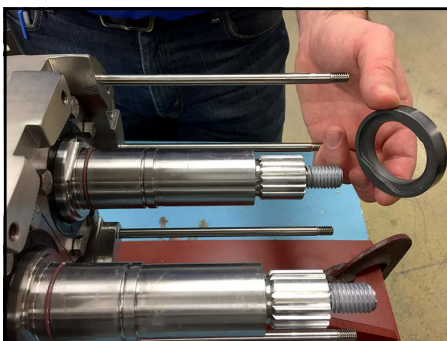

Figure 138 - Install seal seats
3. (Double seal only) Line up the flats on the inside seal seat with the flats on the shaft, and slide the seal seats over the O-ring, until they are seated against the base of the shaft as shown in Figure 138.